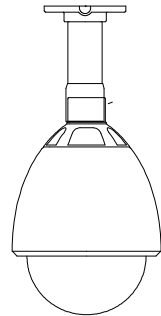

Figure 30
- 4) Fixes the ball cover to the support above(Figure 30)